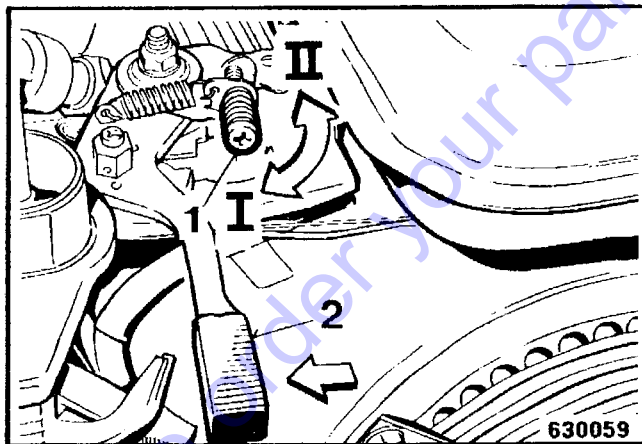

Fig. 2
- Set the throttle lever 2 (Fig. 2) to end position (direction of the arrow), doing this the engine must achieve a max. speed.